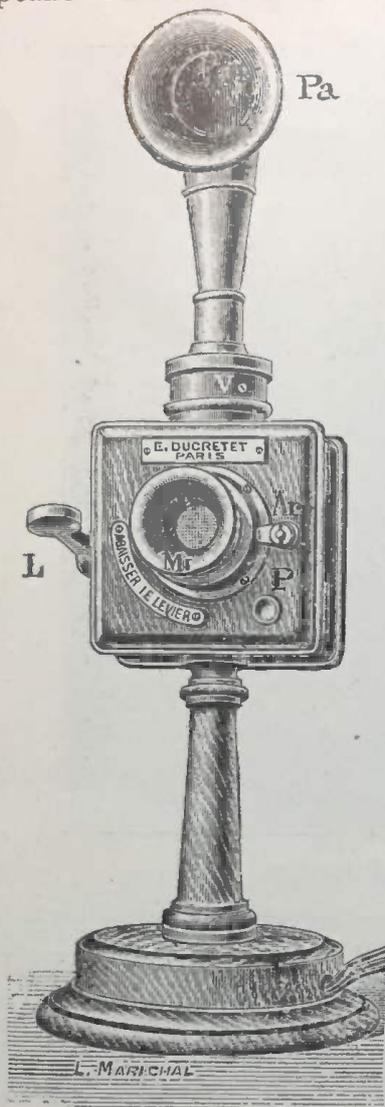

Fig. 3.
Figs. 1 and 2 show the side and end views of the finished detector. Fig. 3 shows the upright support, which may be made in two ways: either by taking a piece of strip brass 4 x 1/2 x 1/32
inches and bending it as shown in Fig. 3, or by first making a wooden model, then by use of the model make a plaster
Fig. 3 shows a loud-speaking desk
-FIG. 3-
one block. Cut the bed spring in half, and using one piece for each switch, nail it midway between the blocks. Now take the one foot length of board and fasten it, by means of a hinge, on the other block. Having made the other switch in like manner. Connect them in parallel, and connect up a bell and battery in series with them (fig. 3).